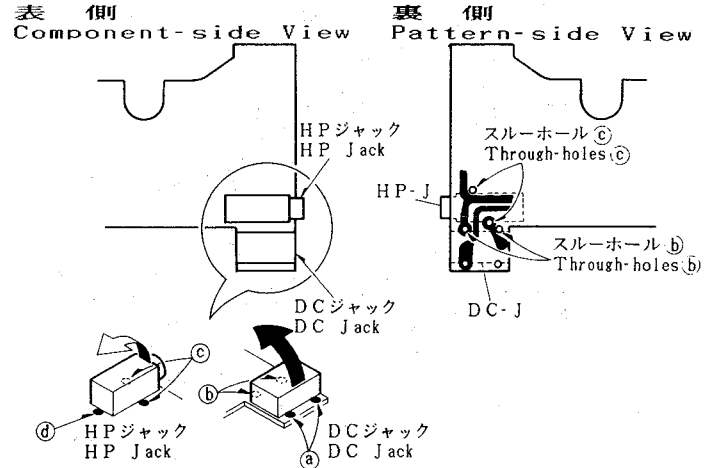

Fig. 8
- 1-2) Unsolder section b by heating the through-hole from the back of the circuit board using a soldering iron. (See Figure 8)
- 2-1) Unsolder section c by heating the through-hole from the back of the circuit board using a soldering iron and lift the section slightly in the direction of the arrow. (See Figure 8)
- 2-2) Unsolder section c. (See Figure 8)